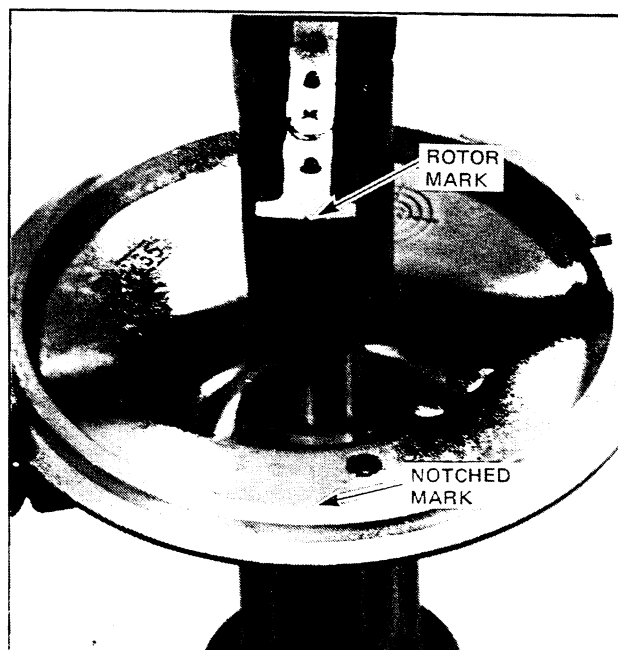

Figure 6D-39
2. Crank the engine until the distributor rotor is in position to fire No. 1 cylinder and the timing mark on the torsional damper is in alignment with the longest mark (TDC) on the front cover timing scale. Fig. 6D-39 shows the No. 1 firing position for EST engines with the mark on the rotor lined up with the notched mark in the distributor housing.